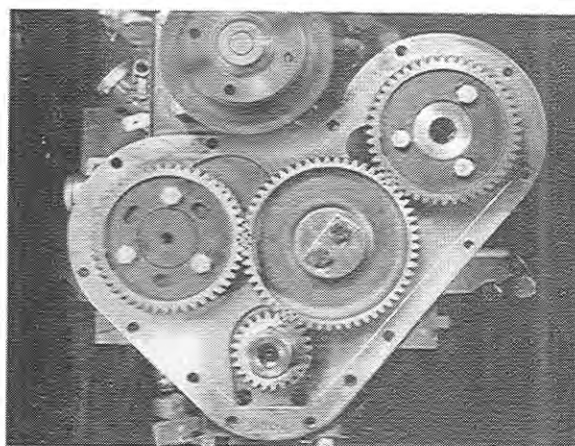

Fig. 14
- 2) Also ensure that the marks on the camshaft gear and idler gear coincide (Fig. 14).
**NOTE:** It is necessary to remove the idler pinion to obtain correct line-up of the marks on all four gears (Fig. 14).
- 1) Fit the idler pinion making sure that its marks line-up with the marks on the other gears (Fig. 14).
- 3) Fit the idler gear in place so that its timing marks coincide with the crankshaft gear and the camshaft gear (Fig. 14).